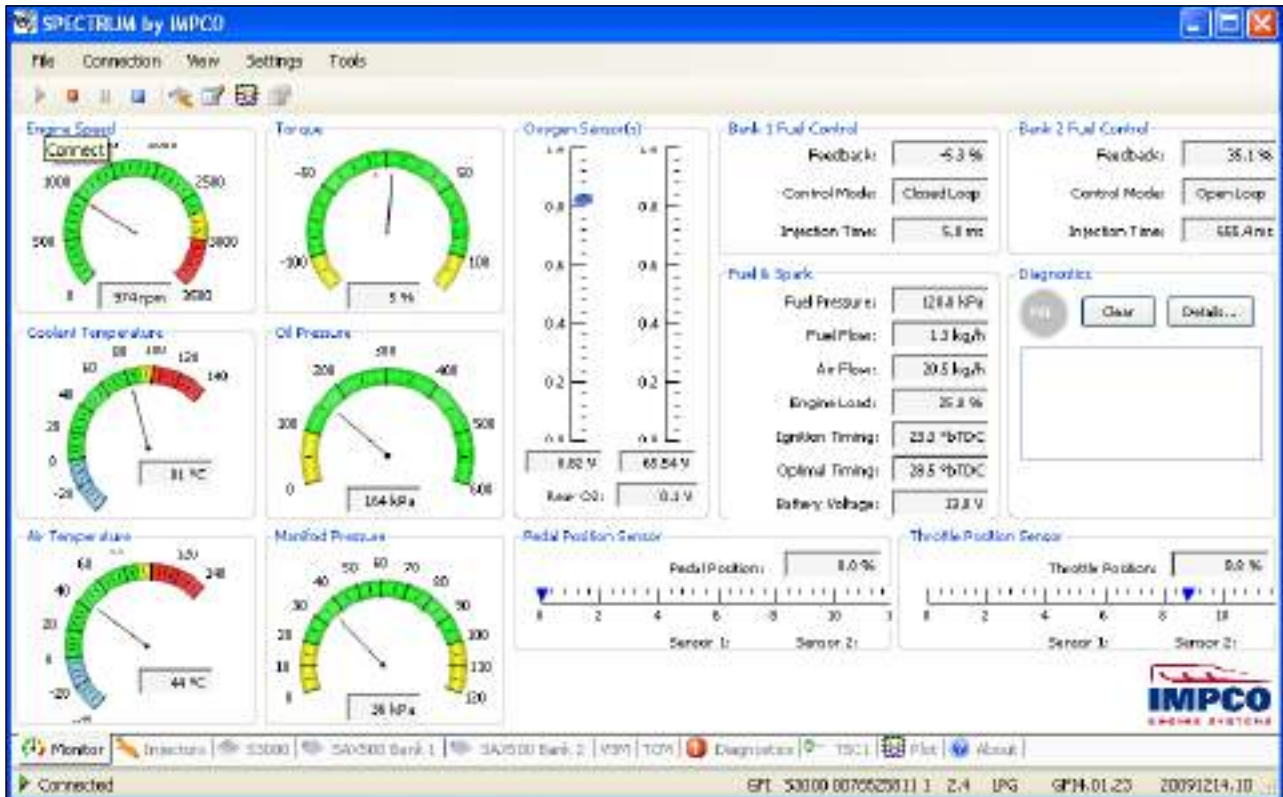

Figure 5-14: Main Monitor Screen
- Should show screen like Figure 5-14, "Main Monitor Screen"